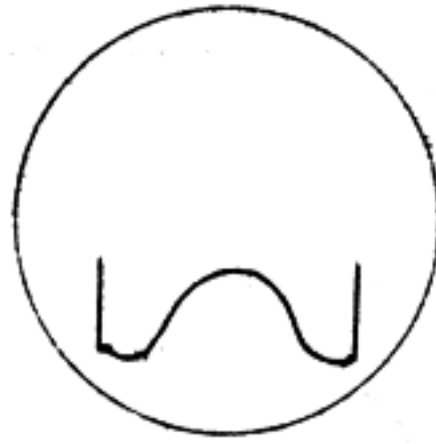

Fig. 20
Also remember that you are doing two things when making this alignment procedure: (1) aligning the i-f stages so that the resulting image is as high as possible. (2) aligning the stages so that they will have the proper band width. In some cases, the best that can be done is a compromise between maximum height and proper band width. See difference in height between Figs. 20 and 21.